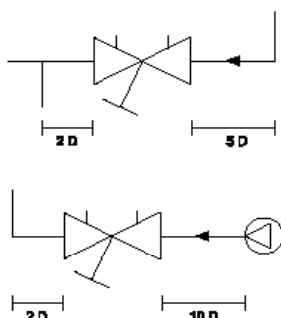

Figure 1
7. In order to insure the valve works properly, it needs a straight pipe which length is not less than 5 times of pipe diameter at the water inlet, and 2 times at the water outlet. (see Fig. 1)
1. Fully close the valve. (Figure 1)